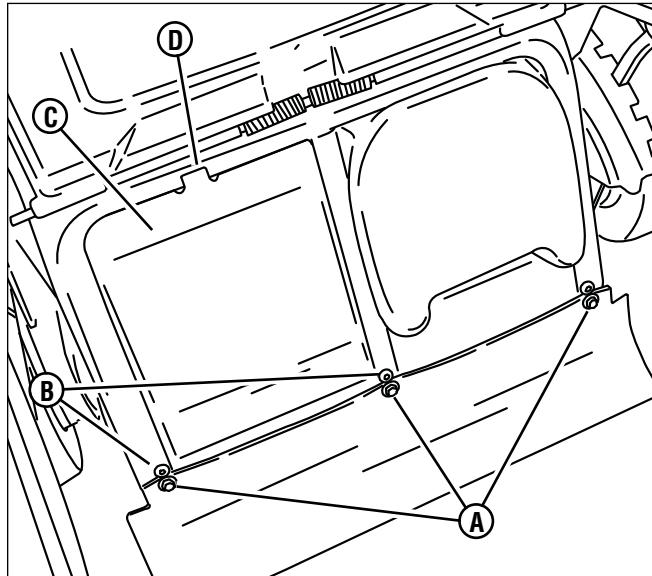

Figure 23: Removing the rear cover
1. Remove the three fasteners (**A**, **Figure 23**) securing the rear apron to the machine.